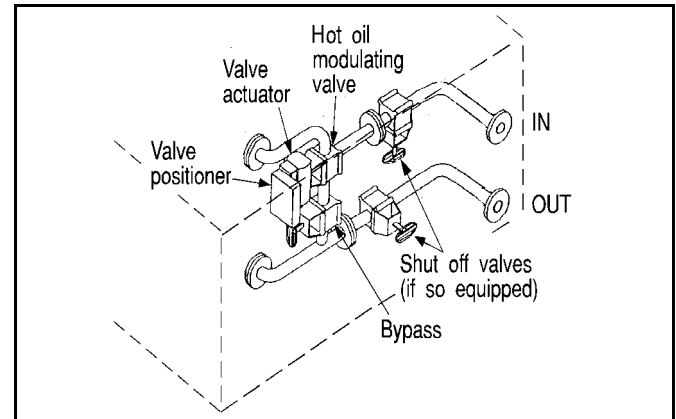

FIGURE 2 (MSSM0102BE)
1. Look at Figure 2, page 5. Attach one side of the manometer to **GAB** (the lower pressure) and leave the other side open to the atmosphere.
The dial on **SPHD** (see Figure 2, page 5) is set at the factory to the value specified in Section 2 , page 2. If the maximum back pressure is exceeded, this switch trips. This causes the message "Back pressure high" or "Clean the lint screen" to appear on the controller display to indicate that a lint screen may be blocked. It does not stop dryer operation. It may be necessary to adjust this switch slightly once the machine is connected to the laundry ductwork. Air pressure in the plenum for this dryer may be affected by the ductwork configuration and by adjacent dryers.